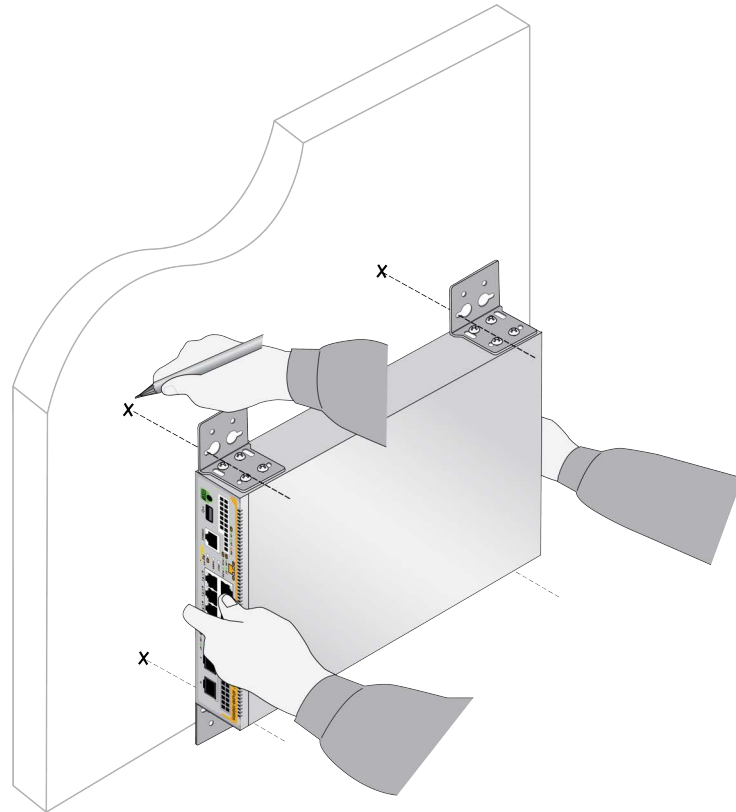

Figure 49. Marking the Locations of the Bracket Keyholes on a Wall
3. Have another person hold the switch at the selected wall location while you mark the wall using the same keyhole of each bracket with a pencil. Refer to Figure 49 on page 80.